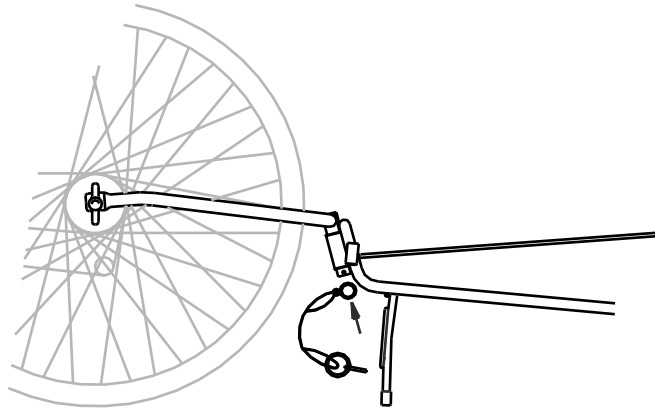

Figure 8 Inserting welded ring and lynch pin
- C) Slide the welded ring over the pivot tube from the bottom and lock it in place by inserting the lynch pin through both holes at the bottom of the pivot tube. Flip the ring over the bottom of the pivot tube to secure the lynch pin (Fig 8).